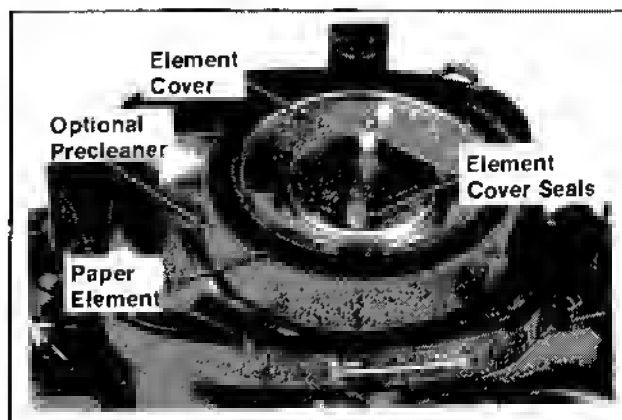

Figure 11-51. Installing Air Cleaner Element.
2. Install the paper element, precleaner (if so equipped), element cover, and element cover seals. Refer to Figure 11-51.